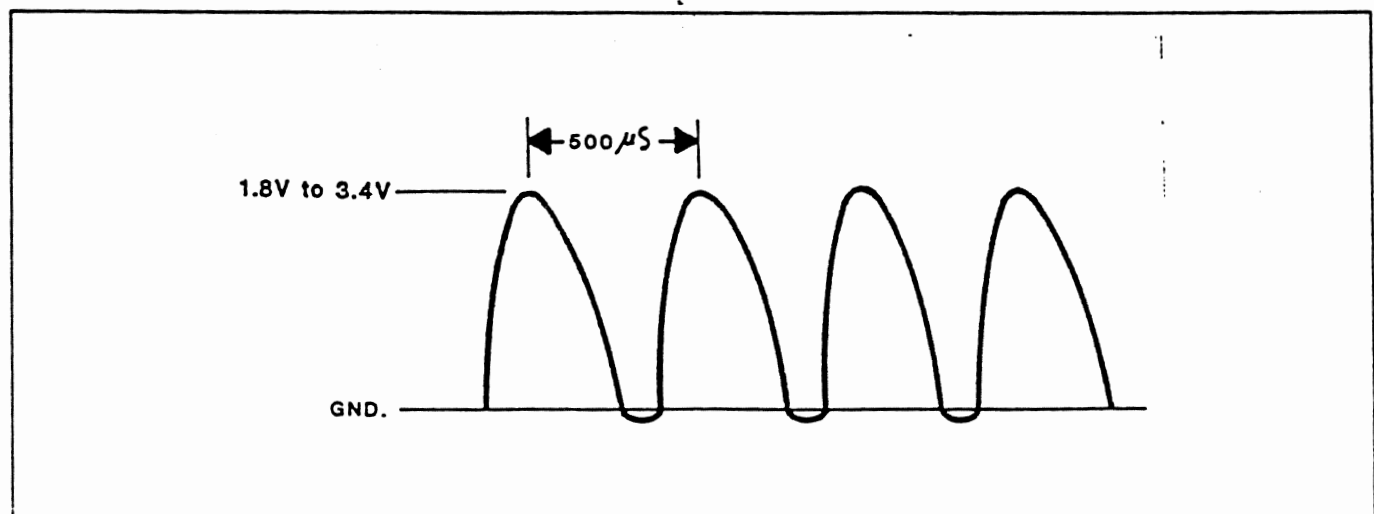

Figure 10. Signal Voltage Waveform
4. With the oscilloscope ground connected to TL1, measure the signal voltage across TL1 and TL3. The signal should appear similar to Figure 10 and its amplitude range should be 1.8 to 3.4V p-p.